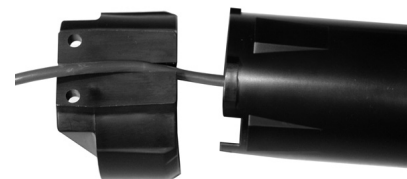

Figure 25: Threading cable harness
2. Carefully slide the encoder cable harness through the slit in the bracket with the screw holes at the bottom (Figure 25).